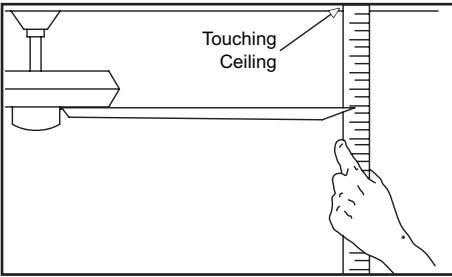

Figure 14
2. Most fan wobble problems are caused when blade levels are unequal. Check this level by selecting a point on the ceiling above the tip of one of the blades. Measure from a point on the center of each blade to the point on the ceiling. Measure this distance as shown in Figure 14. Rotate the fan until the next blade is positioned for measurement. Repeat for each blade. Measurements deviation should be within $1/8"$. Run the fan for 10 minutes.